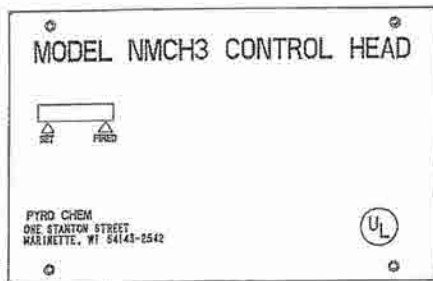

Figure 2-6a. Mechanical Control Head.
The Model NMCH3 Mechanical Control Head is a fully mechanical control head which can be connected to the PCI-15/17/25s/35/50s/70 cylinder valve. This control head will support a fusible link detection system, a remote mechanical pull station (Model RPS-M), and a mechanical or electric shut-off valve. A micro switch (Model MS-SPDT, MS-DPDT, MS-3PDT, or MS-4PDT) can be ordered separately and field installed. There is no local manual actuation for the Model NMCH3. The Model NMCH3 control head can actuate a maximum of five (5) cylinders. See Figure 2-6a.